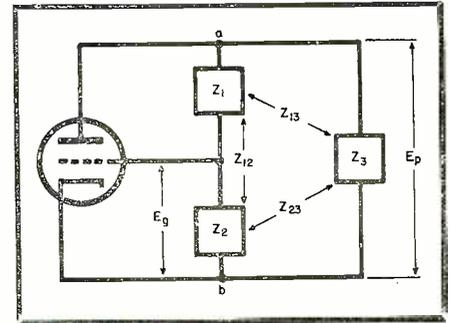

Fig. 5. Block diagram of general feedback oscillator with impedances indicated.
To apply the foregoing information to the general feedback oscillator, refer to the block diagram shown in Fig. 5, with Z_1 and Z_2 forming the feedback network and Z_3 providing the tank circuit. The mutual impedances are included in this diagram for the sake of generality and may or may not exist in any particular circuit application.
A number of methods have been found for improving the frequency stability of an oscillator by connecting certain reactances in the electrode connections to eliminate or at least partially compensate the reactive effects of the tube. Referring to the basic circuit of Fig. 5, the condition of oscillation may be either expressed by Eq. (2) or (6). The well known circuits of Hartley, Colpitts, Meissner and Barkhausen are all represented with the aid of this circuit diagram and appropriate circuit element values. The frequency of oscillation of the particular circuit can be determined by setting the imaginary part of the product $A \cdot B$ equal to zero.